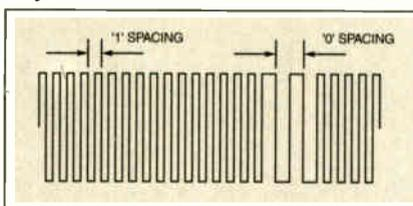
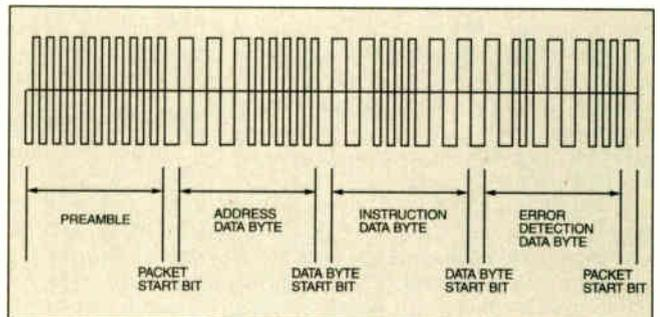
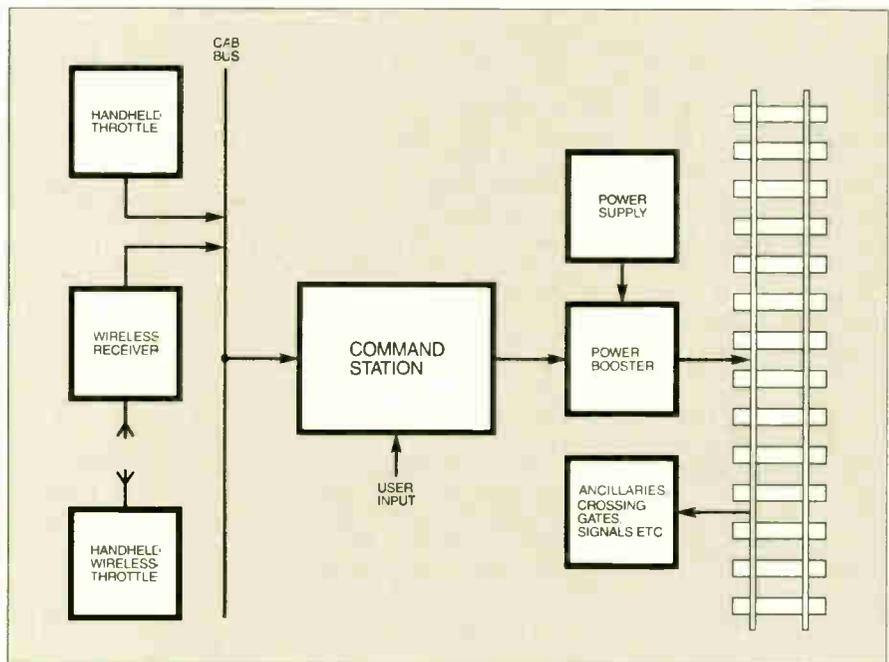

Fig.2. A small snippet of DCC protocol packet.
Fig.3. A typical data packet.
Fig.5. Representative elements of Digital Command Control.
Each locomotive in any train contains a decoder which is set to recognise an address in the serial data, which precedes instructions, such as a change in speed, for that particular locomotive. Details of the data packet format are shown in Fig.2, which shows how zeros and ones are transmitted at different spacings, and Fig.3, which shows a complete packet. Further information is shown in Tables 1 and 2, which are based on the NMRA standards; see www.nmra.org and www.tttrains.com for complete details.
The DCC signal is typically encoded as shown in Fig.3. The aim is to keep the d.c. level of the signal close to zero, to allow
The decoder is looking for its address in the packet protocol of Fig.3. If found, the subsequent bits are decoded and action taken accordingly. For the simple decoder shown, the actions comprise setting speed and direction, and turning the lights on and off. As already mentioned, other decoder functions are often included, and there are decoders designed for static ancillary functions.
The heart of the DCC system, shown in Fig.5, is a Command Station (CS), which generates the serial protocol shown in Fig.3. The output from the CS is boosted to the power level necessary to run all the trains on the system (an HO loco typically requires about 0.5A), together with any ancillaries drawing power from the rails.
Although Table 3 lists the impressive advantages of DCC, the system of Fig.5 suffers from a potential drawback. Particularly in large layouts, where trains can disappear from view, maybe for minutes at a time, users can lose track of which train has which address, and where it is.